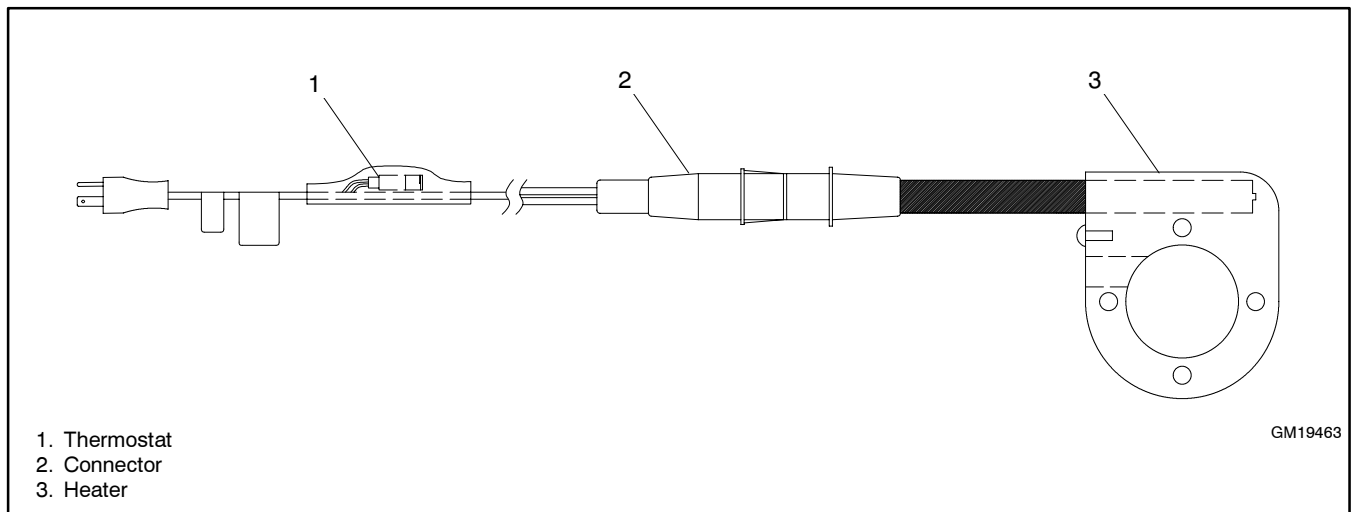

Figure 15 Heater with Thermostat
- 7.2 Place the heater thermostat, which is located near the end of the power cord, in the generator set housing air intake area/battery compartment. See Figure 15.